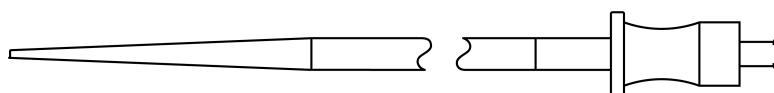

Figure 3: Dilator
The Edwards SAPIEN 3 pulmonic delivery system (Figure 2) facilitates the placement of the bioprosthesis. It consists of an inline sheath, balloon catheter for deployment of the Edwards SAPIEN 3 transcatheter heart valve, and an outer shaft and valve capsule to cover the transcatheter heart valve during insertion and tracking to the intended deployment location. The delivery system includes a tapered tip to facilitate crossing of right heart structures. The valve capsule and tapered tip are hydrophilic coated. A visual balloon shaft marker is provided to assist with balloon recapture. A stylet is included within the guidewire lumen of the delivery system. The 28 F hydrophilic coated dilator (packaged with the delivery system) is used to predilate the vessel prior to insertion of the delivery system, if necessary (Figure 3).
• **Dilator (Figure 3)**